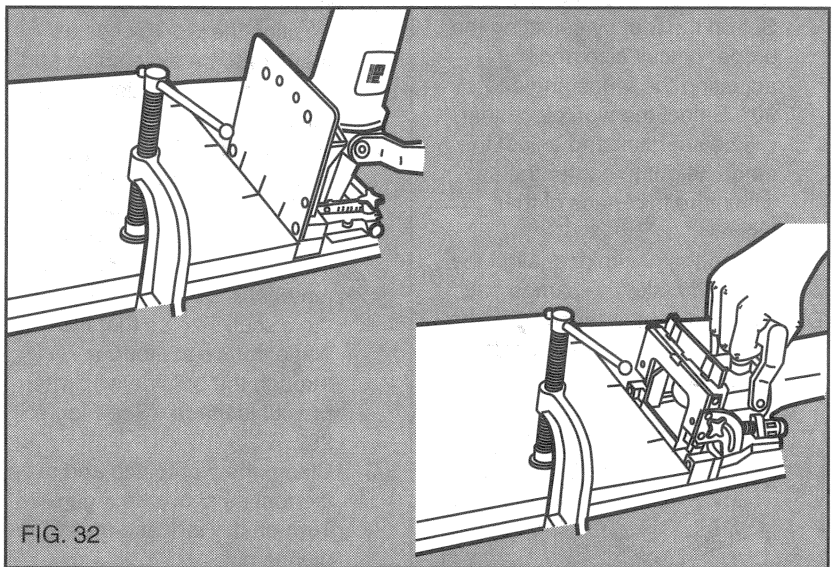

FIG. 32
- D. Using the bottom registration surface, align the tool with the biscuit location marks and make a vertical and a horizontal plunge cut for each biscuit location as shown in Figure 32.